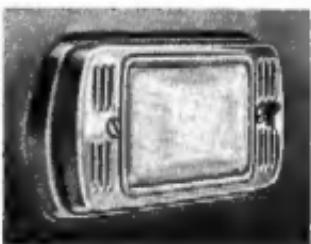

Fig. 7—Dome Light and Switch
**Dome Lamp Switch.** The dome lamp switch is located at the left end of the dome lamp assembly directly above the rear window (fig. 7). Moving this switch backward turns the light on and moving it forward turns the light off.